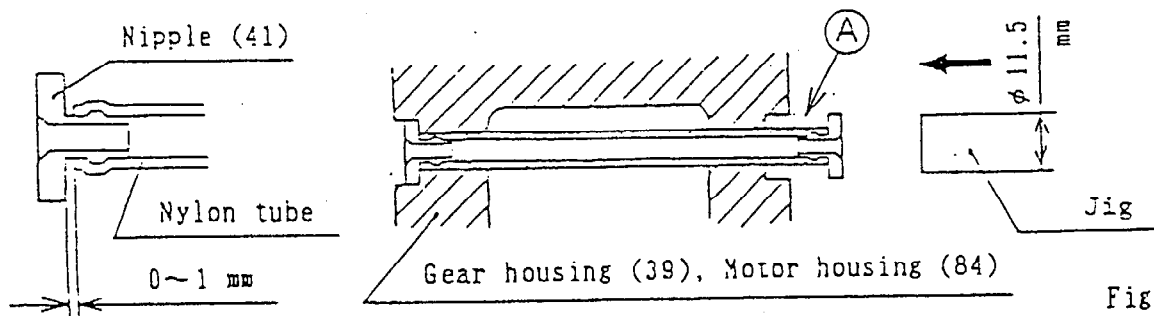

Fig. 9
-2) Assembly procedures for nylon tubes (40) and (85)
- ① Insert nipple (41) to the nylon tube. Keep clearance between the end face of the nylon tube and the flange of the nipple at 0~1 mm.
- ② Use a jig of which outerdiameter is 11.5 mm and strike into the gear housing or the motor housing.
- ③ As shown with ① in Fig. 9, pull out the opposite side of the nylon tube from the end face of each housing, insert the nipple and strike with a jig. (Similarly to ①, keep the clearance at 0~1 mm.)